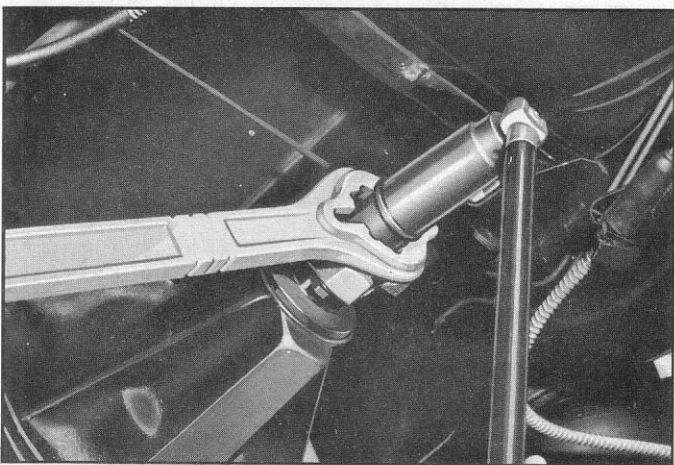

Fig. 18—Installing Companion Flange—J-8614 Shown
9. Install drive flange. If flange does not go on shaft easily, pull flange on shaft using J-8614 or J-2637 (fig. 18). Tool J-5780 is threaded onto pinion shaft and large nut tightened to pull flange on shaft. Remove tool and install special washer and new pinion shaft nut. Torque 150-190 ft. lbs.